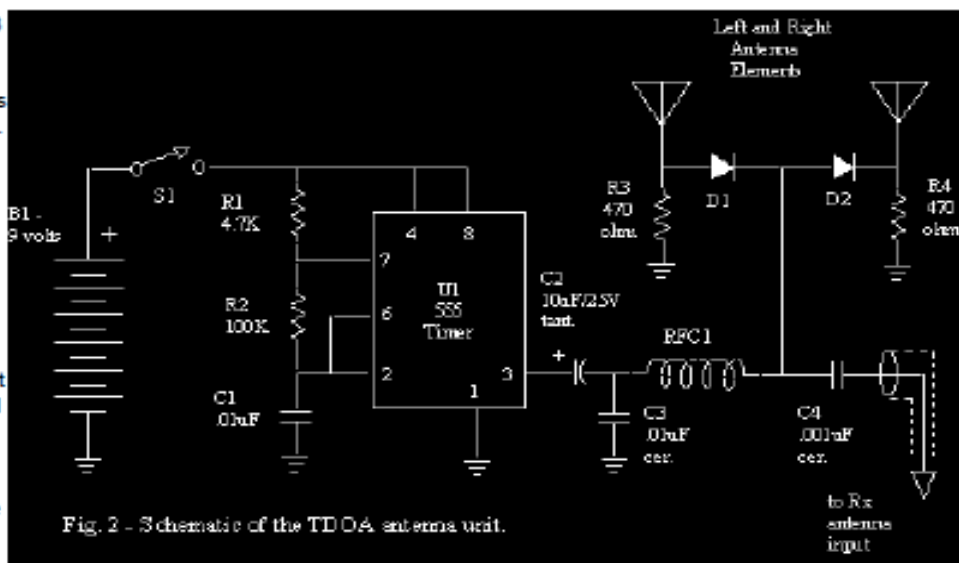

Fig. 2 - Schematic of the TDOA antenna unit.
You can build a simple TDOA unit in an evening or two for about \$10 or less (depending on the size of your junk-box). The circuit, shown in Fig. 2, is based on one in an article by Paul Bohrer (ref 1). U1 is a 555 timer powered by a 9V battery, oscillating at about 1kHz. R1, R2 and C1 determine the frequency of oscillation. The output of U1 is a square-wave from +9V to ground. C2 allows the square-wave to be level-shifted to between +4.5V and -4.5V. The positive half of the